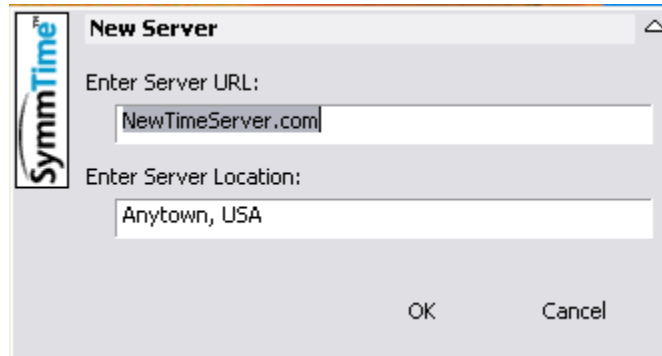

Figure 1-5. The New Server Window in SymmTime
4. Click **Add Server**. The New Server window appears, as shown in Figure 1-5.